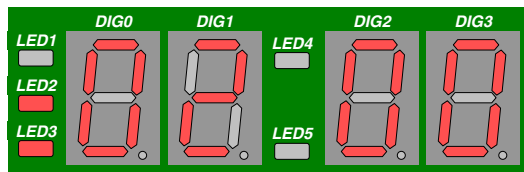

Figure 13-4. Default Lower Threshold (200 rpm)
(1) To enter the settings menu, press the Center button on SW4. The display thereafter shows the current value of the lower threshold. Refer to Figures 13-4 and 13-5.